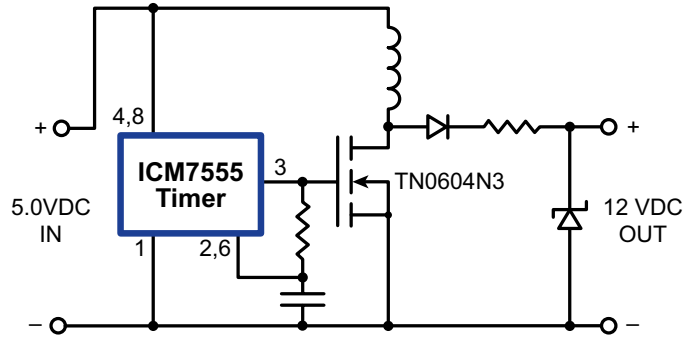

Figure 6: Charge Pump Converting 5.0 to 12VDC
► Figure 6 shows a simple charge pump converting 5.0 to 12VDC. The key parameter for efficient functioning of this circuit is $R_{DS(ON)}$ at $V_{GS} = 5.0V$.